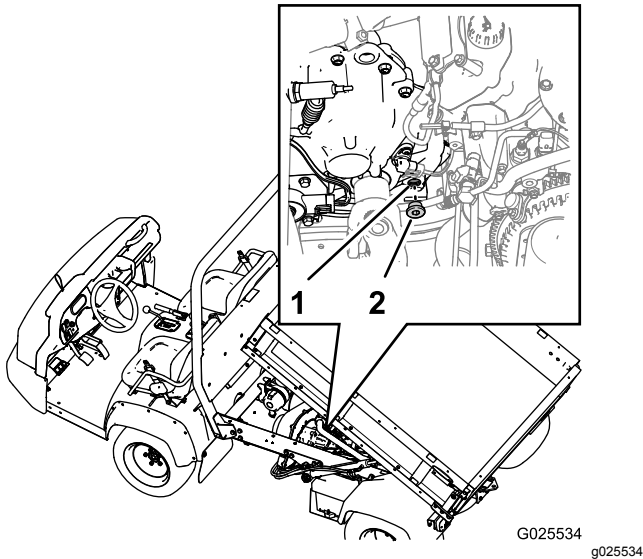

Figure 57
1. Locate the fill plug at the at the lower-inboard area at the back of the transmission (Figure 57).
3. Rotate the plug counterclockwise and remove the plug from the fill port in the transmission (Figure 57).
4. If the transmission-fluid level is low, add transmission fluid of the specified type into the transmission through the fill port until the fluid level is flush with the bottom of the threads in the port (Figure 57).
6. Install the fill plug into the transmission and tighten it by hand (Figure 57).